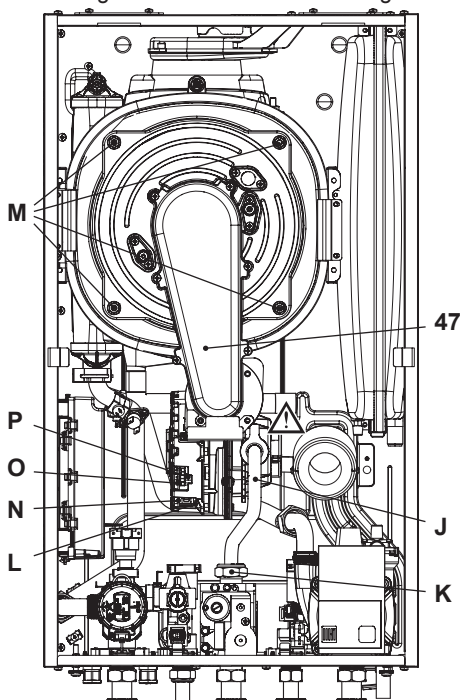

Fig. 10.13
Removing the fan burner unit 47 in Fig. 10.13.
- Insert a flat screwdriver in the connector recess **L** and lever towards the bottom, disconnect the connector at the same time **N** by pulling towards the front **N** (Fig. 10.13).
- Disconnect the fan connector **O** by pressing the plastic hook **P** positioned at the bottom part of the connector (Fig. 10.13).
- Unscrew screws **M** and remove the fan burner unit 47 (Fig. 10.13)